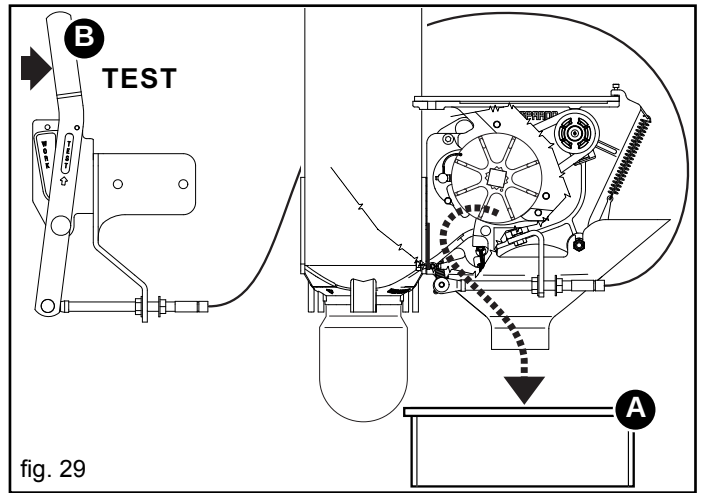

fig. 29
- 2) Position the required container (A) under the metering unit and open the spout for product discharge (B, Fig. 29) ...«TEST»